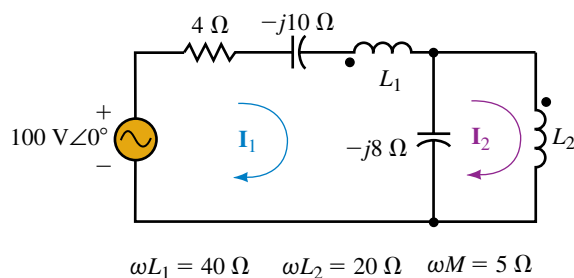

FIGURE 24-80
39. For the circuit of Figure 24-80, write mesh equations.